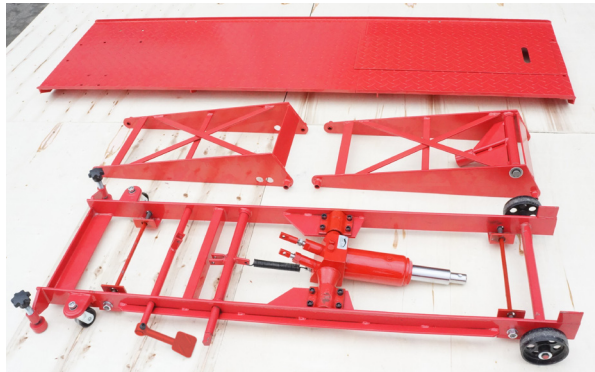

Fig. 1
1. This motorcycle lift includes three main parts: Base Plate (28), Lifting Arms (33 & 47) and Platform (42). (Fig.1)